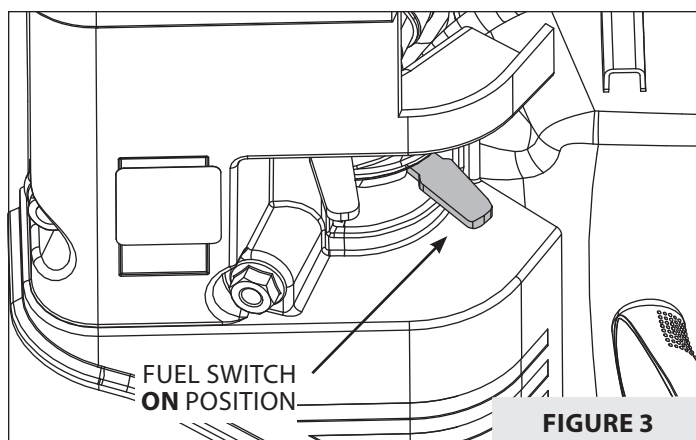

FIGURE 3
1. Move the fuel valve switch to the **ON** position. **SEE FIGURE 3.**